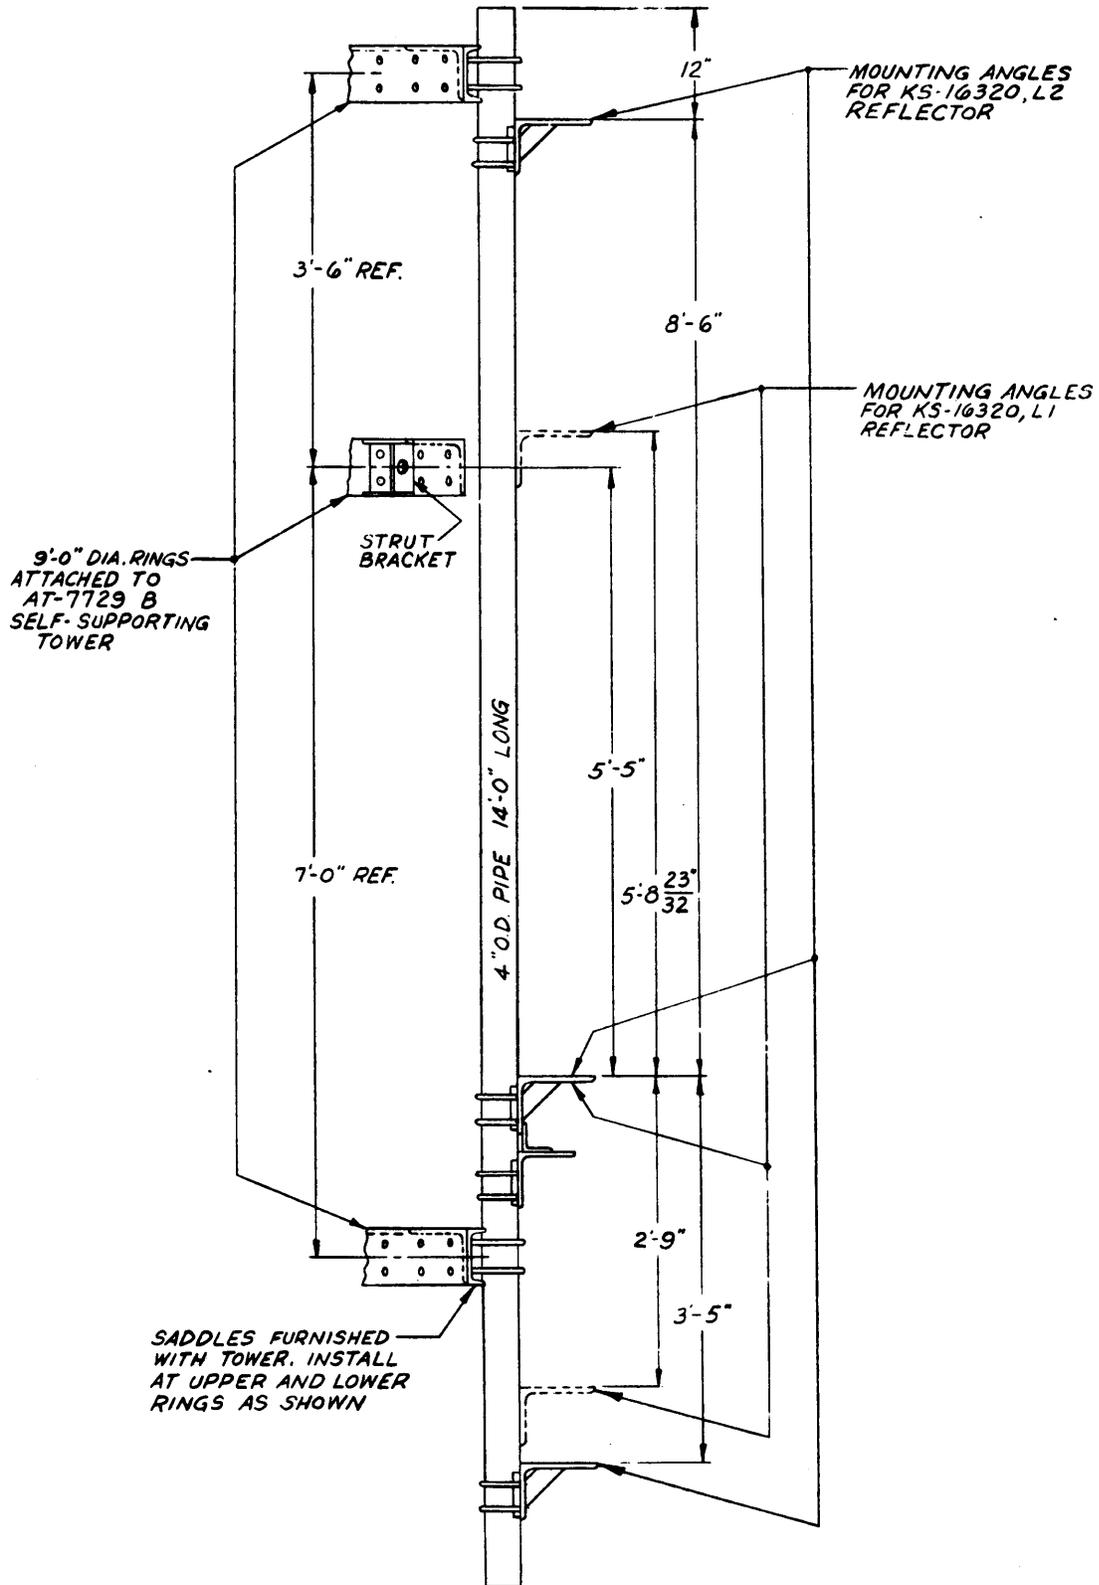
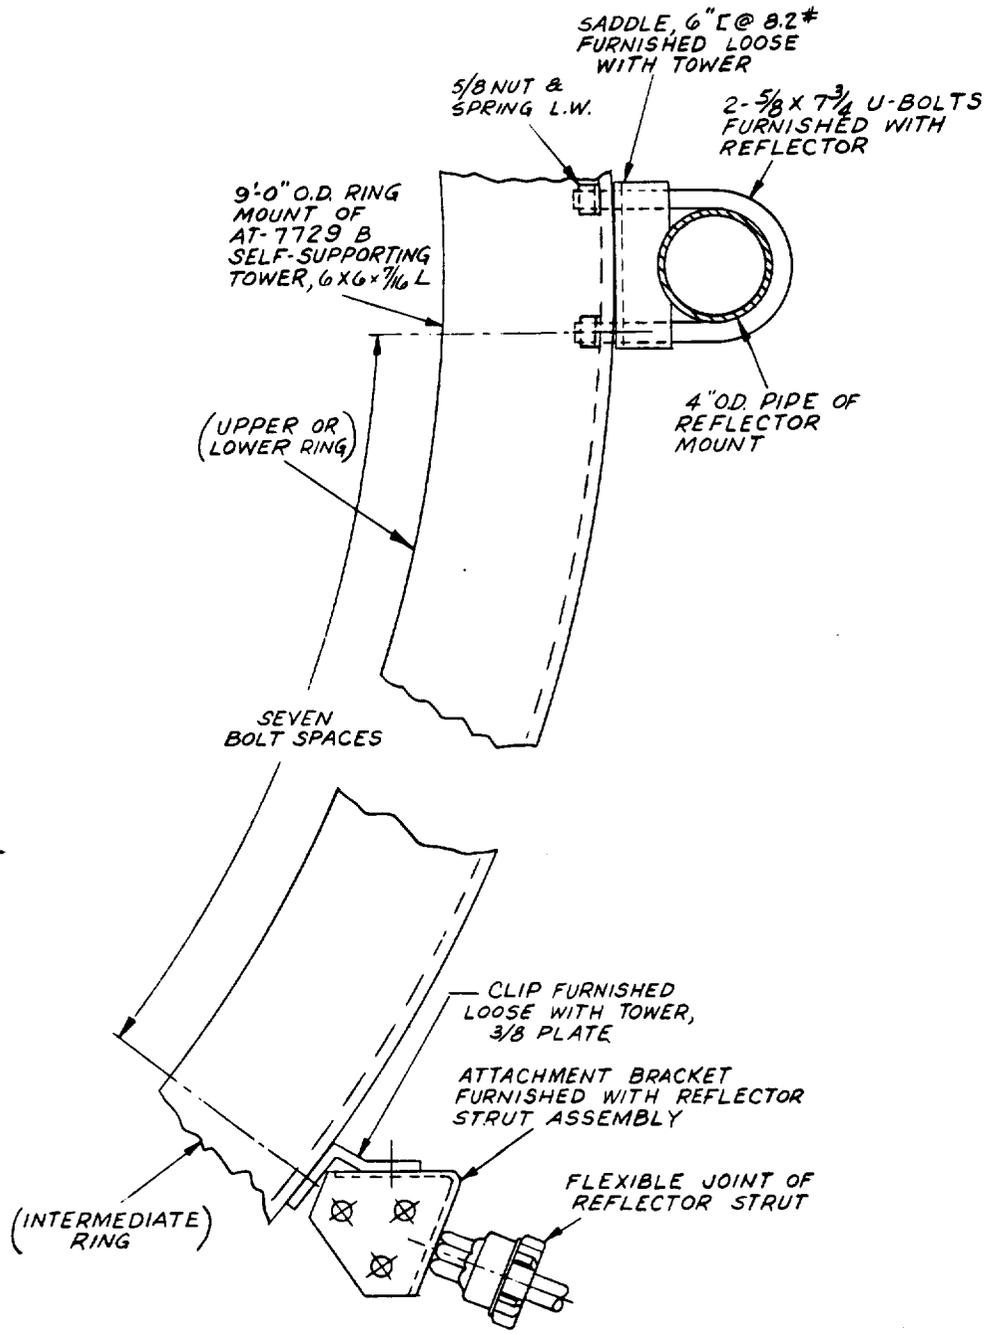
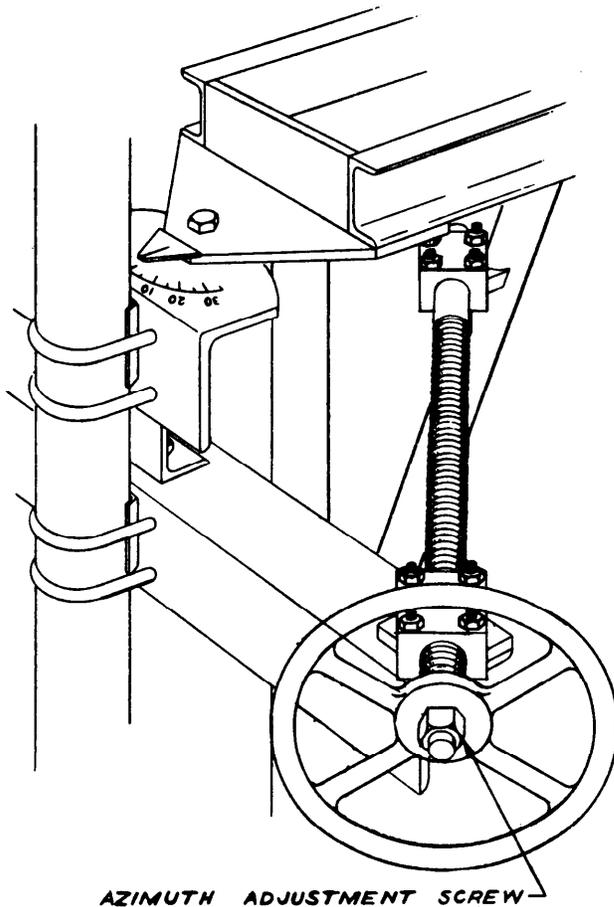
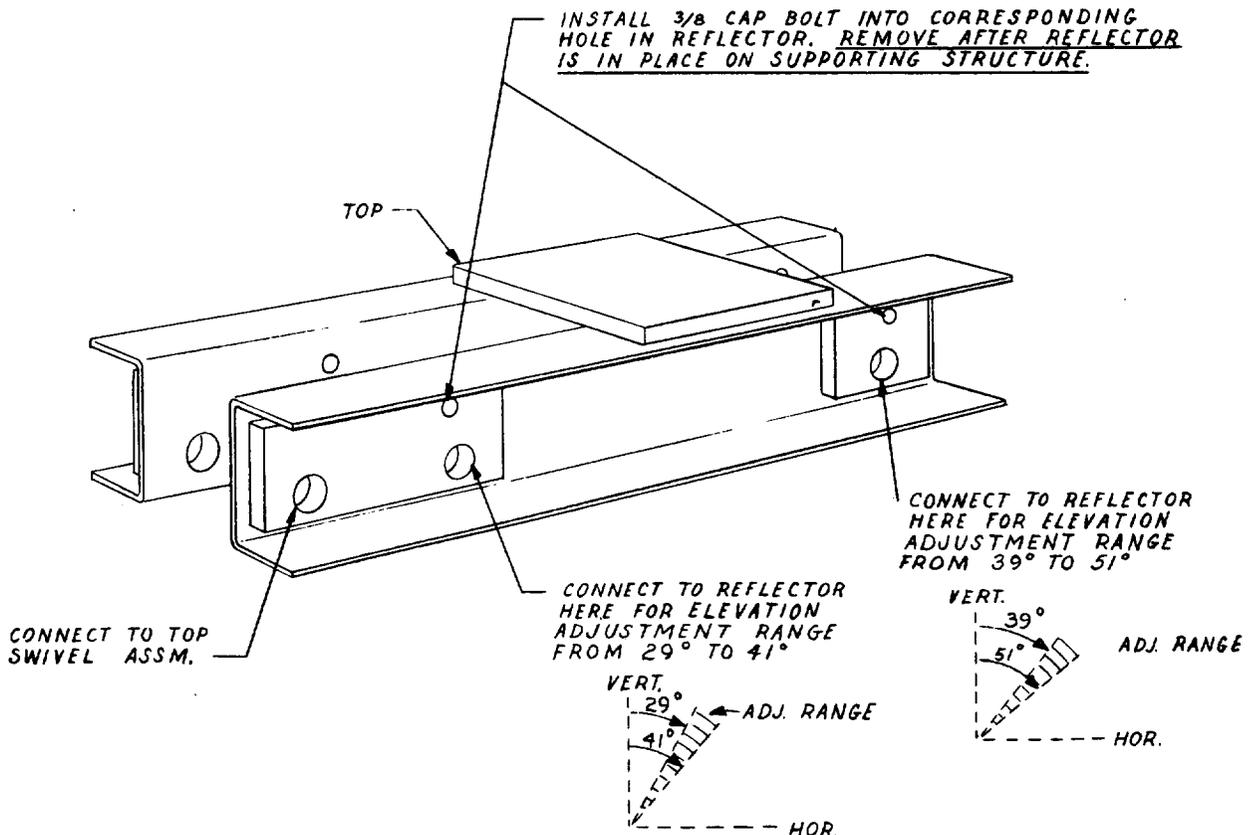

Fig. 1 - KS-16320 Pipe Mount on AT-7729 B Self-Supporting Tower
Fig. 2 - Mount for KS-16320 Passive Reflector on AT-7729 B Self-Supporting Tower
Fig. 3 - KS-16320, List 8 Azimuth Adjustment Screw Assembly in Operating Position
Fig. 5 - Top Mount Assembly - KS-16320 Passive Reflector
1.01.1 *Reason For Reissue:* To include the information in the Addendum to Issue 1 which corrected Fig. 3.
2.01 In Section 402-423-400, Figs. 1 and 2 show the assemblies of lists 1 and 2 passive reflectors, respectively. AT-7729 B self-supporting towers are fitted with three 9-foot O.D. rings to which the reflector assembly is to be connected; the rings are spaced as shown in Fig. 1 of this section. Each ring contains two rows of 11/16-inch holes on 3-inch vertical centers pitched 4-11/16 inches circumferentially.
2.02 The 4-inch O.D. pipe of the reflector mount (Section 402-423-400, Fig. 1 or 2, Item 26) is bolted to the upper and lower rings using the four 5/8- by 7 3/4-inch U bolts (Fig. 1 or 2, Items 36D) which are supplied with the reflector. Two saddles are furnished with the tower, to be installed between the pipe and the rings as shown in Fig. 2 of this section.
2.03 A formed clip, as indicated in Fig. 2 of this section, is provided with the tower; it is to be bolted to the intermediate ring to serve as a connection for the attachment bracket of the reflector stabilizing strut.
3.02 The clip for attachment of the strut bracket may be connected to the intermediate ring on either side of the reflector at a distance of seven bolt spacings from the 4-inch O.D. pipe, as shown in Fig. 2 of this section. *Strut location will be decided by local supervision.*
4.01 If Option A is followed for the installation, the reflector will be connected to the mount on the ground and the complete assembly then hoisted into position. Check the reflector carefully for correct assembly and install the top mount as described in 4.12 and 4.13 of this section. Examine the reflector mount for correct assembly as outlined in applicable Section 402-423-204 or -205; spacing of the mounting angles on the 4-inch O.D. pipe shall be as indicated in Fig. 1 of this section.
4.02 Support the reflector mount horizontally or vertically, as preferred, allowing ample space for the safe and convenient handling of the reflector. The lower mount should extend vertically upward if the 4-inch O.D. pipe is horizontal. If the pipe is vertical, the assembly should be in its normally upright position as shown in Section 402-423-400, Fig. 1 or 2 as applicable; in that case the lower mount will be horizontal. Install the azimuth adjusting tool as shown in Fig. 3 of this section, lash it in place using marline or heavy twine, and leave in place until the assembly has been installed on the tower.
4.03 In Section 402-423-400, refer to applicable Fig. 1 or 2 and place the reflector on the mount as shown. Connect the clamp assembly loosely (Fig. 1, Items 11B, 12B, and 13B; or Fig. 2, Items 9B, 10B, and 11B) and bolt the top mount loosely (Fig. 1, 10B; or Fig. 2, 12B) to the swivel (Fig. 1, 9B; or Fig. 2, 8B). *Remove the $\frac{3}{8}$ - by $1\frac{1}{2}$ -inch cap screw from the top mount.* Position the pointer on clamp 12B or 10B to the approximate elevation setting; if no estimate can be made, set the pointer at midscale. Clamp the reflector to the lower mount. Tighten the bolts connecting the top mount to the reflector and to the swivel.
4.06 Attach the hauling line to the 4-inch O.D. pipe. Rig the assembly for hoisting so that it assumes the normal, upright position (see Section 402-423-400, Fig. 1 or 2) during the ascent; the approximate weight is 785 pounds for list 1 reflectors or 960 pounds for list 2 reflectors.
4.07 Following Option B in 1.02, be certain that the reflector mount has been fully assembled as described in applicable Section 402-423-204 or -205; set the spacing of the mounting angles on the 4-inch O.D. pipe, as shown in Fig. 1 of this section. *The two saddle clamps furnished with the tower and the four 5/8- by 7 1/4-inch U bolts with nuts and lockwashers (furnished with the reflector) must be available at the top of the tower when the reflector mount is hoisted.*
4.08 Referring to Section 402-523-400, Fig. 1 or 2 as applicable, fit the clamp assembly (Fig. 1, Item 11B; or Fig. 2, Item 9B) to the
lower mount (Fig. 1, 7B; or Fig. 2, 13B), place the clamps (Fig. 1, 12B and 13B; or Fig. 2, 10B and 11B) over the studs, and fasten them temporarily. The clamps must be removed when the reflector is brought into place in the final assembly; therefore, attach them now only to prevent loss while the mount is being hoisted. Make them reasonably easy to detach for placement of the reflector, but screw the nuts on at least to their full thickness. Position the clamp assembly as closely as possible to the 45 degree reading on the elevation scale of the lower mount, and lash securely as shown in Fig. 4 of this section.
4.09 Rig the mount for hoisting so that it assumes the normal upright position during the ascent (see Section 402-423-400, Fig. 1 or 2); the approximate weight is 260 pounds. Connect at least two handling lines near the bottom of the mount and deploy men on the ground to handle the ropes in the best manner to minimize erratic motion and prevent collision with the supporting structure or other obstacles as the assembly is being hoisted.
4.10 When the reflector mount reaches the installation level, guide it into position at the predetermined location on the ring mount; use the handling lines to control the mount without restricting placement. Place the saddles between the 4-inch O.D. pipe and the upper and lower rings, and install the U bolts as shown in Fig. 2 of this section. Adjust the distance between the intermediate mounting angle and the center line of the intermediate ring to 5 feet 5 inches as shown in Fig. 1 of this section. After the spacing has been adjusted, fully tighten the U-bolt connections to the upper and lower rings before releasing tension on the winch line and removing all lines from the reflector mount.
4.12 Connect the top mount (Section 402-423-400, Fig. 1, Item 10B; or Fig. 2, Item 12B) to the 1-1/32 inch hole in the casting at the back of the reflector. There are two positions on the top mount at which it might be connected to the reflector as shown in Fig. 5 of this section. *The choice depends on the desired range of elevation adjustability and is to be determined by local supervision.*
4.13 Join the top mount to the reflector at the correct bolting position, using a 1- by 5-inch bolt with lockwasher and nut. Run the nut up as far as possible without immobilizing the mount. Install the 3/8- by 1 1/2-inch cap screw (Section 402-423-400, Figs. 1 and 2, Item 16) through the small hole in the top mount, adjacent to the bolting position, and into the tapped hole in the reflector casting as shown in enlarged view D-D of the above figures. The top mount is
4.14 Remove all shipping protection from the strut assembly (Section 402-423-400, Fig. 1 or 2, Item 32B). See that the insertion tube and sleeve of the strut move freely with respect to each other. The ball joints at the ends of the strut have been factory set; *do not disassemble them*, but examine the recess between the nut and the ball for dirt or foreign material. Remove any deposit carefully using a clean, dry, lint-free cloth; if a probe is required, use a suitably shaped stick and be careful to avoid entrapment of splinters in the joint. Take precaution to keep the joints clean during assembly. The joints have been preloaded to require 20 to 30 pound-feet of applied torque for movement; therefore, they will not move freely by hand. However, a check is to be made of the freedom of the joint by carefully restraining the end (the octagonal flats on the body provide a convenient clamping point); the ball should move in its seat under
4.15 When the joints have been carefully checked for cleanliness and freedom of movement, apply grease equally to each joint from the metal container supplied with the strut. Pack the grease into the recess between the nut and the ball, as indicated in Section 402-423-400, Figs. 1 and 2. Using a flat blade, work the grease in evenly around the circular cavity and pack it down firmly. Keep the joints off the ground and away from gritty dust, etc, after the grease has been applied.
4.16 Connect the ball joint at the end of the sleeve to the bracket (Section 402-423-400, Fig. 3, Item 29 or 30; or Fig. 4, Item 27 or 28) on the side of the reflector frame which has been selected in accordance with the discussion in 3.02 of this section. Connection is made by placing the open end of the joint against the
4.17 Connect the attachment bracket furnished with the strut to the ball joint on the insertion tube. Assemble the strut and lash the two pieces together to prevent them from separating. Apply another lashing to hold the strut approximately in the installed position (see Section 402-423-400, Fig. 1 or 2) and to prevent it from swinging uncontrollably while the reflector is being hoisted. Tighten the bolts in the split clamps to the point where they still permit the tubes to telescope but require a minimum of tightening for full clamping.
- (1) *Provides for the complete safety of the user in that it is capable of being firmly attached to the reflector, affords the user adequate support, and when installed can be safely and readily mounted and dismantled by the user.*
- (2) *Assures complete protection of the reflector from damage. Do not in any case apply concentrated loads directly to the sheet metal reflecting surface.*
4.18 Sling the reflector so that the lifting load will be taken by the tubular member at the back of the frame (Section 402-423-400, Fig. 3, Item 13; or Fig. 4, Item 18). The approximate weight is 525 pounds for list 1 reflectors or 700 pounds for list 2 reflectors. **Do not transmit any of the lifting load to the casting at the top of the frame and avoid bending any welded connection.** Attach at least two handling lines near the bottom of the reflector, of sufficient length to permit men to be deployed on the ground to suitable positions from which the motion of the reflector can be effectively controlled throughout the ascent.
Keep the reinforcing pads clear at the center of the base (Section 402-423-400, Fig. 3, Items 8; or Fig. 4, Items 35) so that the reflector can be rested on the lower mount when it has been hoisted into position.
4.20 Install an azimuth adjusting tool on the reflector mount, as shown in Fig. 3 of this section, before the reflector is hoisted.